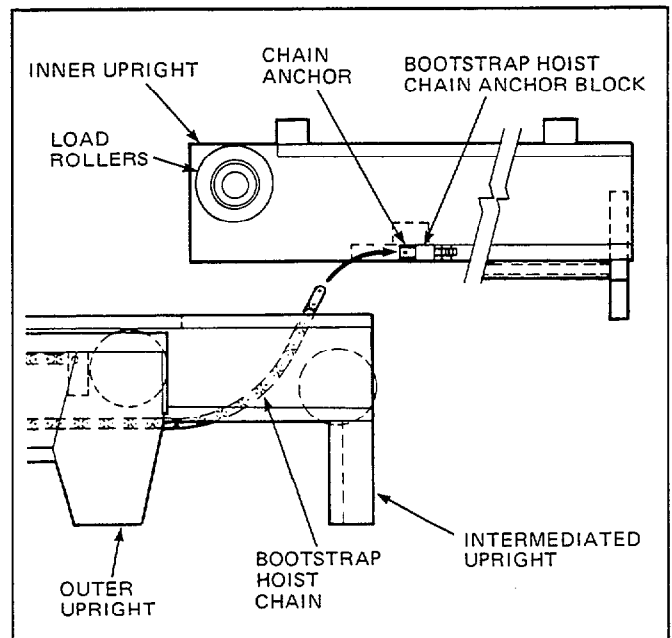

Figure 37. Inner Upright Installation
8. Using a sling and hoist or some other suitable lifting device, position the inner upright so that the inner upright load rollers fit into the cutouts at the top of the intermediate upright. Lower the inner upright onto the intermediate upright. See Figure 37.
9. Attach the bootstrap hoist chain anchor blocks to the inner upright. Torque to 60–65 ft.-lbs. See Figure 37.